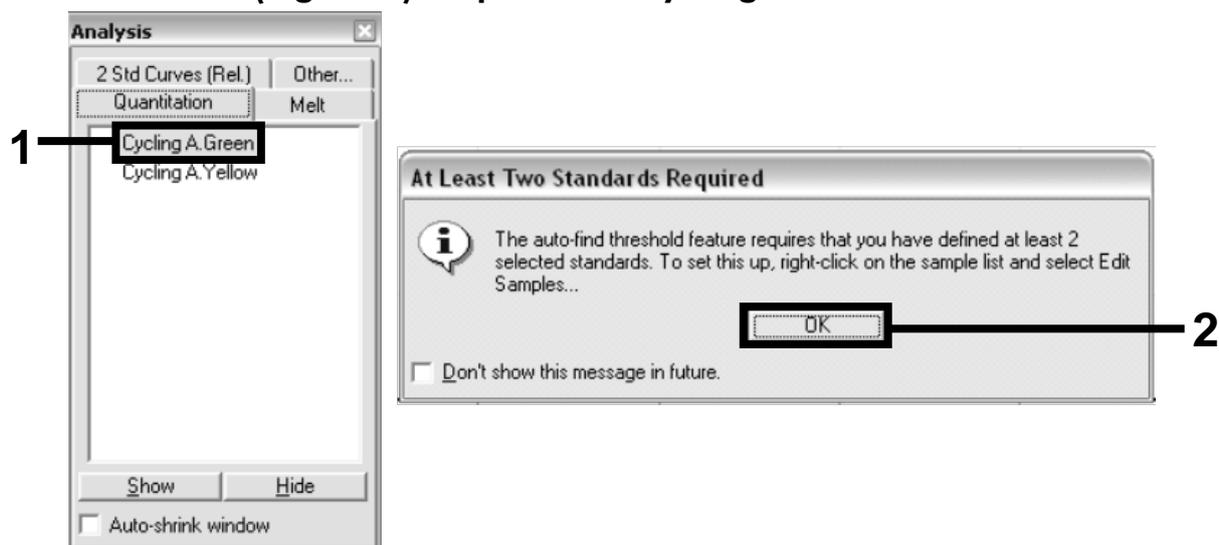

Figure 9. Quantitation: "Cycling A. Green".
18. In the "Analysis" dialog box, double-click "Cycling A. Green" and then "OK" (Figure 9). Repeat for "Cycling A. Yellow".